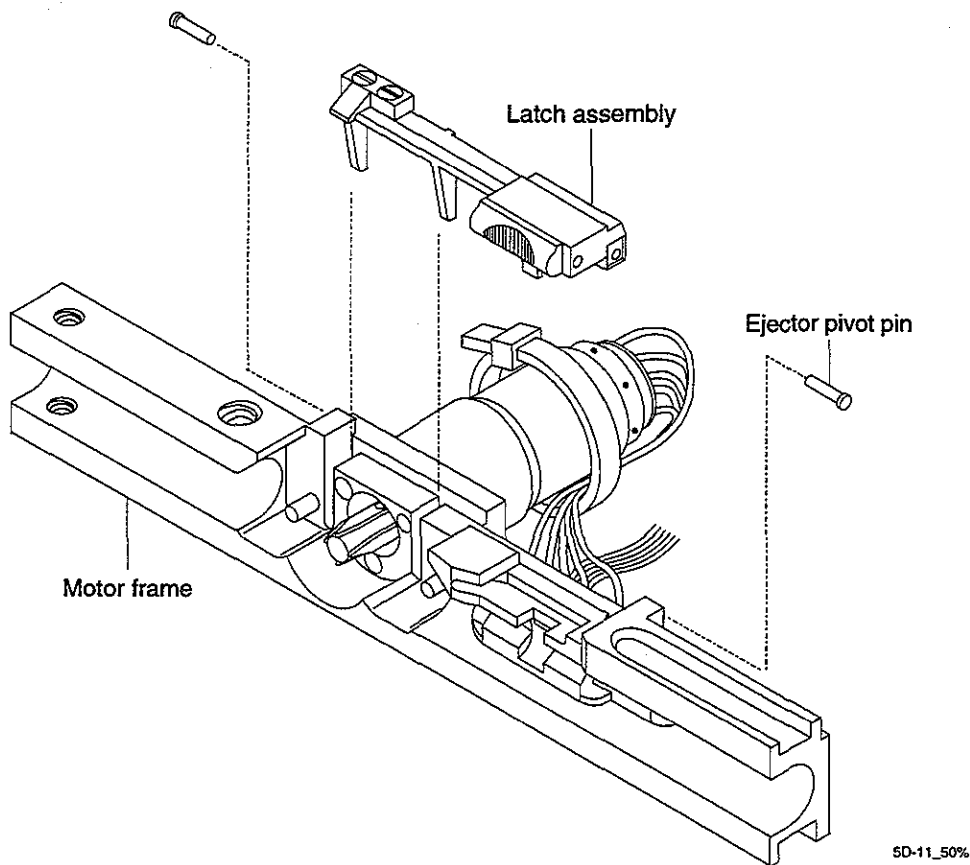

Figure 7-10. Latch Assembly to Motor Frame
1. Remove the ejector pivot pins and lift the latch assembly from the motor frame (refer to *Figure 7-10. Latch Assembly to Motor Frame*).